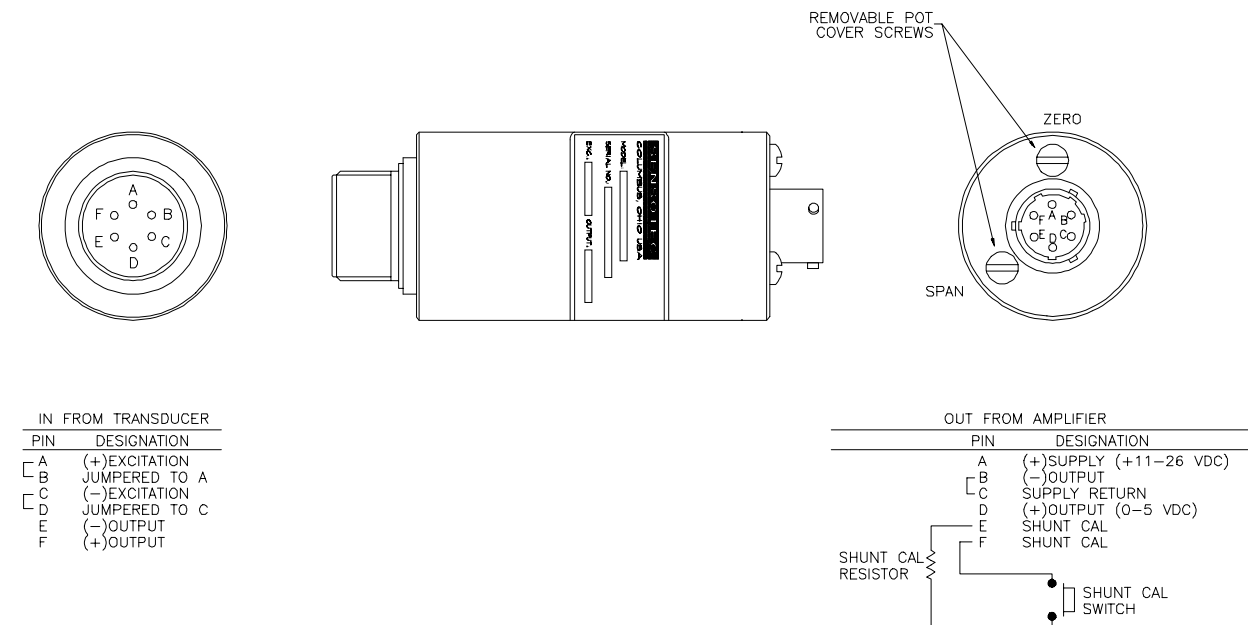

Figure 1
Caution: Be sure amplifier power (11-26 VDC) is connected to Pins A and B (Fig.1). Permanent damage will occur as a result of an extended overvoltage applied to the incorrect pins.
Step 1. Connect transducer, power supply, and readout instrument (see Fig. 1).
Note: The shunt cal resistor is connected externally by the purchaser to Pins E and F (Fig. 1). The value of the shunt cal resistor is given on the transducer calibration sheet supplied by transducer manufacturer.